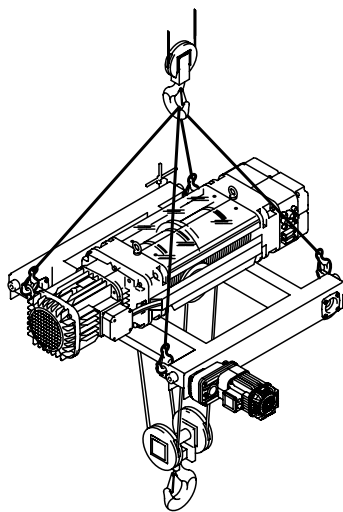

fig. 178
- Attach a 4-rope fall sling, using a lifting apparatus adequately chosen in relation to the handling weight and to the handling height, to the attachment points of the trolley (fig. 178)